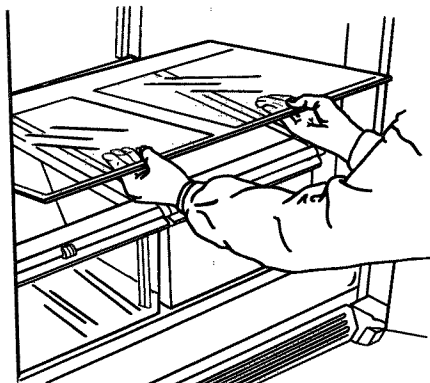

Figure 36
- f. Grasp shelf with other hand and tilt glass upward at one end and remove from refrigerator. See Figure 36.